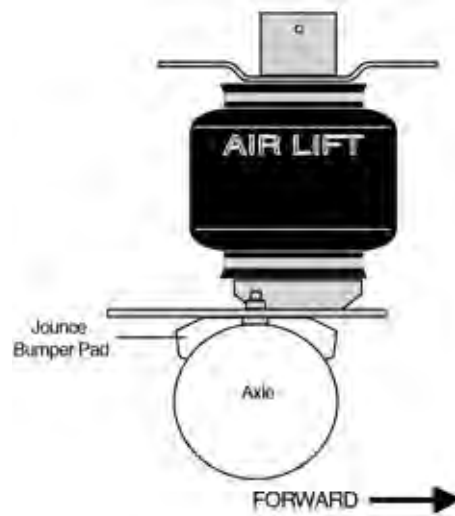

fig. 2
5. A spacer is required so that the lower bracket sits level on the axle housing/jounce bumper pad. Insert 3/8-16x3/4” HHCS bolt through lower bracket and secure with 3/8” lock nut (Figure 1). The spacer should sit inboard of the jounce bumper pad (Figure 2).